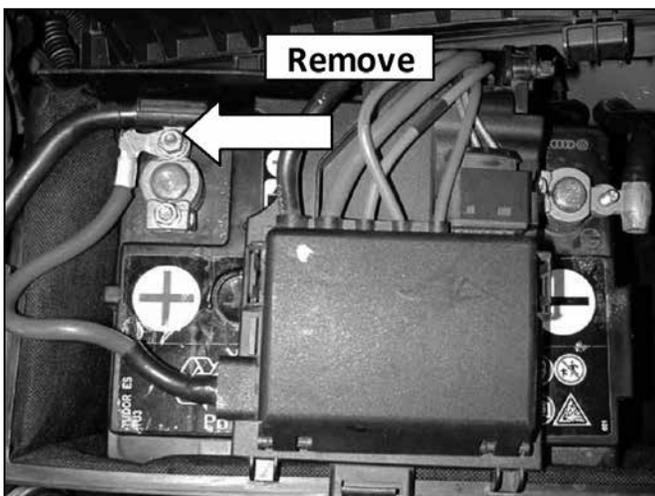

Fig.1
- d. Lift the plastic battery cover, disconnect the negative battery terminal, then remove the short positive lead from the positive battery terminal. **(Fig. 1)**